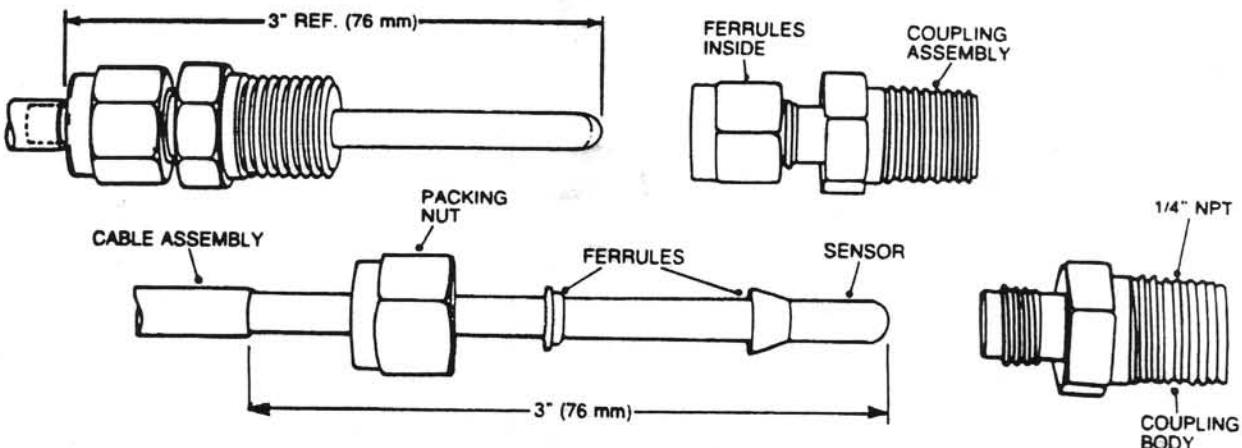

Fig. 22 – Thermistor (Compressor and Cooler)
This thermistor is located in the leaving water nozzle. The probe is immersed directly in the water. Connection is made through a 1/4-in. coupling (fig. 22). Actual location is shown in fig. 12.
This thermistor is located in the cooler shell in the first baffle space, in close proximity to the tube bundle. The 1/4-in. coupling is used (fig. 22). Actual location is shown in fig. 12.
These thermistors are located next to the refrigerant inlet in the cooler head. The 1/4-in. coupling is used (fig. 22). Typical location is shown in fig. 12.
These thermistors are located in the lead compressor in each circuit in a suction passage between the motor and the cylinders, above the oil pump. The 1/4-in. coupling is used (fig. 22). Location is shown in fig. 8.
Proceed as follows (refer to fig. 22) :
2. Apply pipe sealant to 1/4-in. NPT threads on replacement coupling and install in place of original. **Do not use packing nut to tighten coupling ; this would damage the ferrules** (see fig. 22).